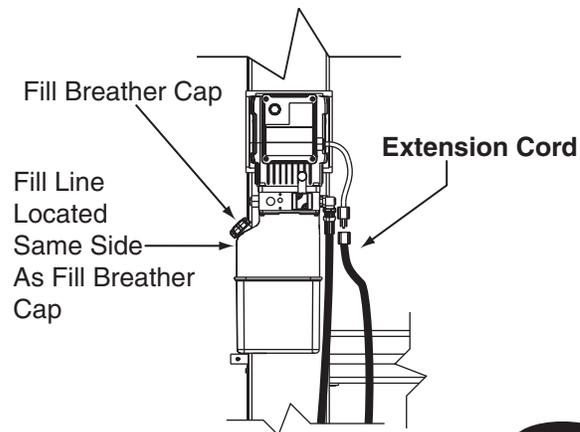

Fig. 18
A.) Remove fill/breather cap and fill with **Dexron III ATF only** to fill line on tank, Fig 18. The capacity of the tank is 10 liters or approximately 12 quarts.
A.) For 115V power unit - plug cord into extension cord rated for 15 amps hard or extra hard usage, Fig. 18.